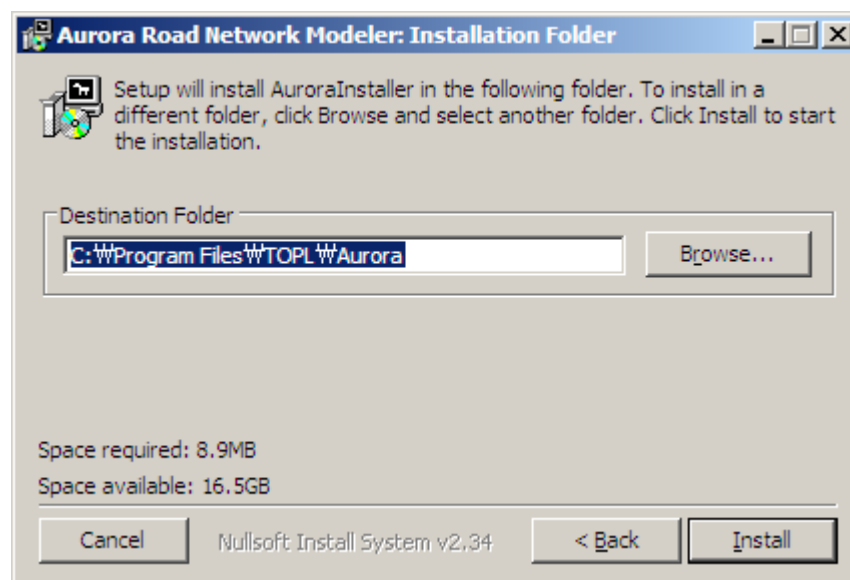

Figure 3-3: Installation folder.
5. Determine which folder to install Aurora (Figure 3-3). The default installation folder is `C:\Program Files\TOPL\Aurora`.